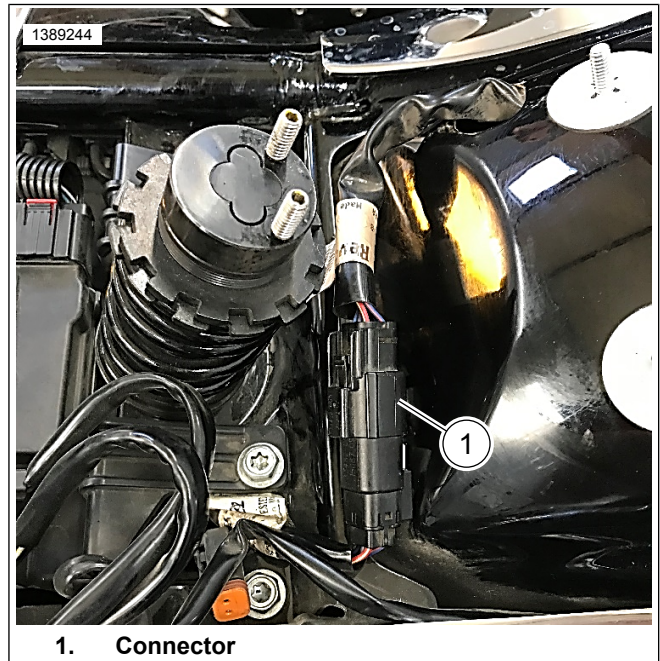

Figure 2-58. Motorcycle rear light connector
3. See Figure 2-58. Disconnect the motorcycle rear light harness connector (1).